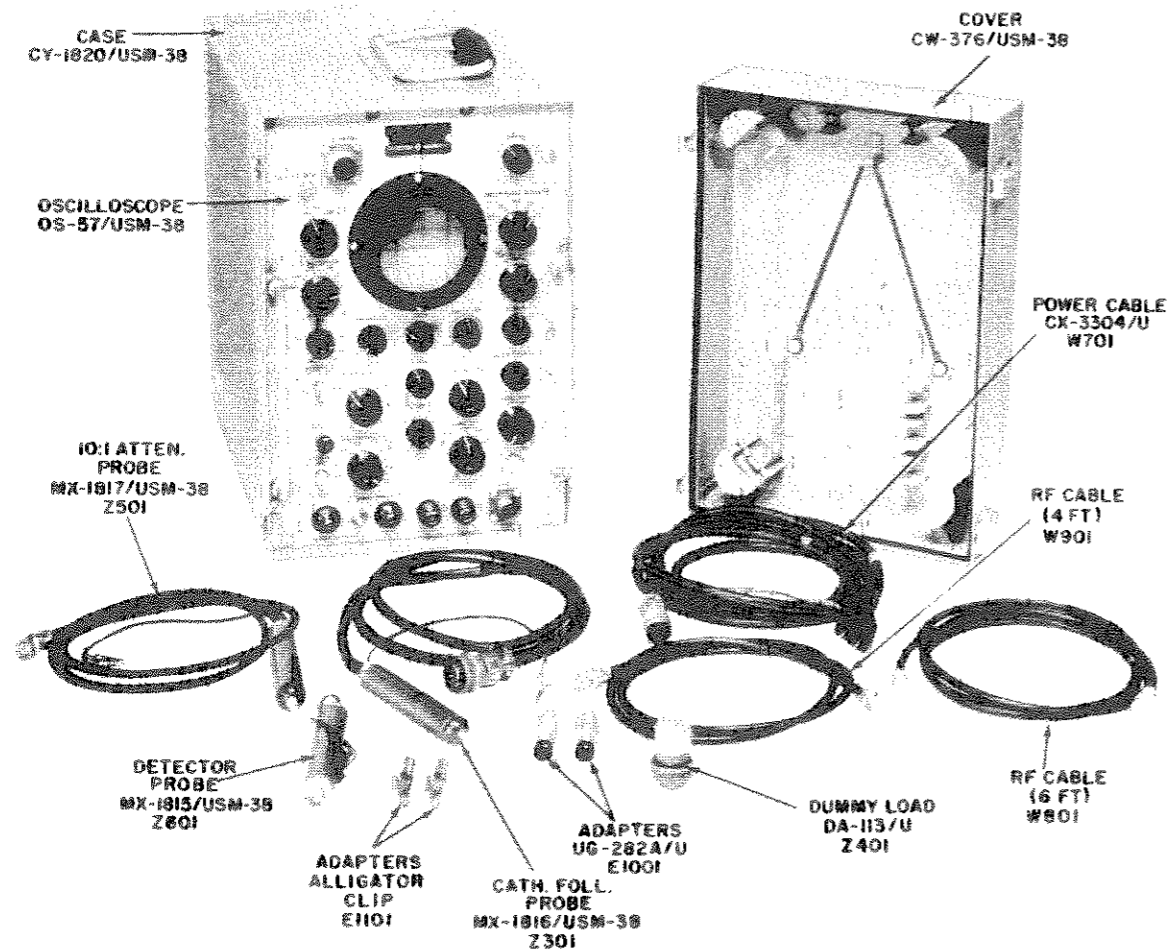

Figure 1-1. Oscilloscope AN/USM-38.
1. PURPOSE AND BASIC PRINCIPLES (See figure 1-1)
b. OSCILLOSCOPE OS-57/USM-38 - The general form of Oscilloscope OS-57/USM-38 is shown in figure 1-1. It consists of the sheet aluminum protective case, front panel, and chassis assembly. The case mounts a carrying handle, the fittings required to attach Cover CW-376/USM-38, and a retractable stand. A small removable cover plate is located on the rear of the case to provide access to the H DIRECT and V DIRECT connections to the deflection plates of the cathode ray tube. All operating controls, connectors, and fuses are conveniently located on the front panel of the oscilloscope. The screen of the cathode ray tube is visible through a green plastic filter and an inscribed scale. The internal construction of the oscilloscope consists of a rectangular frame and chassis assembly containing the power supply, wiring harness, printed wiring assemblies, tubes, and various component parts. Electrical and operating characteristics are given in tabular form in paragraph 3 of this section. Figure 4-22 shows a block diagram of the functions and relationships of the major circuits.